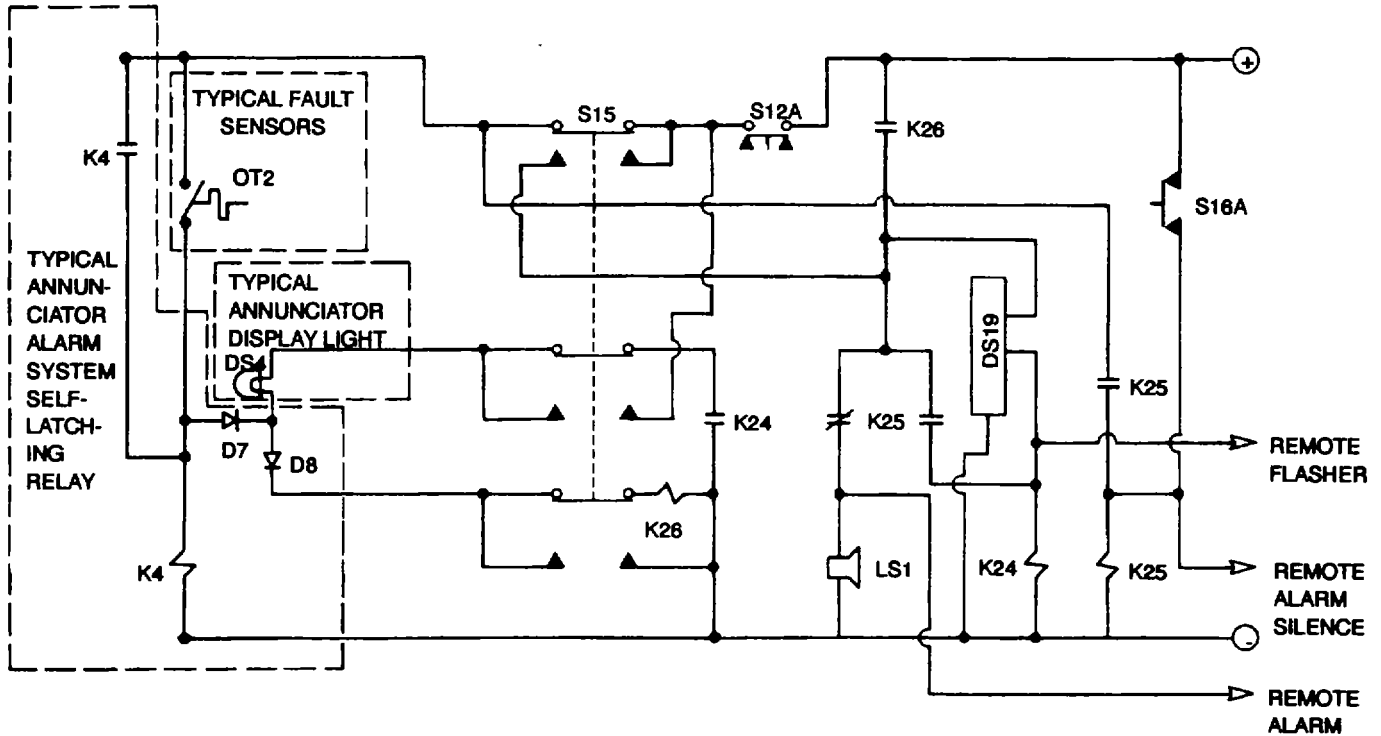

Figure 10-1. Annunciator Alarm System, Simplified Schematic Diagram
- a. **Fault Sensor.** Refer to Figure 10-1. Lubricant temperature switch OT2 is a typical fault sensor. Upon an over temperature condition, OT2 will close. The closing action of OT2 connects positive dc voltage to alarm relay AI OK4, energizing the relay.
- b. **Alarm System Self-Latching Relays.** Refer to Figure 10-1. Alarm relay AI OK4 is a typical annunciator alarm system self-latching relay. Whenever energized by the single fault sensor connected to it, self-latching contacts close to ensure the relay remains energized, even if the switch in the fault sensor reopens. Once energized, K4 will remain latched until manually deenergized as described in step f, below.
- c. **Alarm Relay K26.** Refer to Figure 10-1. Whenever a self-latching annunciator alarm system relay such as K4 is energized, alarm relay K26 is energized through the latching contacts of the alarm relay (K4). The contacts of alarm relay K26 close to apply positive dc voltage to flasher DS19 and, through the normally closed contacts of alarm silence relay K25, to horn LS1. The horn sounds.
- d. **Flasher DS19 and Annunciator Panel A9.** Refer to Figure 10-1. Flasher DS19 operates at three cycles per second and has a 50 percent duty cycle. Three times per second, flasher relay K24 is energized through flasher DS19. Each time K24 is energized, annunciator display light A9D7 is illuminated to provide a visual indication of which fault circuit has tripped the alarm system. Annunciator display light A9D7 is just one of 18 lights in annunciator panel A9. Fourteen of the lights are each associated with one of the 14 fault sensors in the generator set. The remaining four lights are associated with the four unused alarm circuits in the system.
- e. **Alarm Silence Relay K25.** Refer to Figure 10-1. Horn LS1 will continue to sound until ALARM SILENCE pushbutton S16 is manually pressed to energize self-latching alarm silence relay K25. When relay K25 is energized, its normally closed contacts open, cutting off positive dc voltage from horn LS1. The horn goes dead. Simultaneously, the normally open contacts of relay K25 close to connect flasher relay K24 directly to positive DC voltage, bypassing flasher DS19. Relay K24, which had been receiving positive dc voltage on and off, three times per second, is now continuously energized. As a result, annunciator display light A9DS4, which had been flashing, is now continuously on.
- f. **ANNUNCIATOR RESET Pushbutton S12A.** Refer to Figure 10-1. Annunciator display light A9DS4 will remain on until the annunciator alarm system circuit has been reset via ANNUNCIATOR RESET pushbutton S12A. When pushbutton S12A is pressed, the following occurs:
- (1) Positive dc voltage is disconnected from self-latching annunciator alarm system relay AI OK4. The relay deenergizes and unlatches. Annunciator display light A9DS4, which has been receiving battery positive through the latching contacts of AI OK4, goes out.
- (2) Alarm relay K26 deenergizes when the latching contacts of AI OK4 open. The normally open contacts of K26 open to disconnect battery positive from flasher DS19 and flasher relay K24.
- (3) Pressing pushbutton S12A also disconnects battery positive from self-latching alarm silence relay K25. Relay K25 deenergizes and its normally closed contacts reset the horn circuit. The normally open contacts of K25 open to reset the flasher circuit.
- g. **ANNUNCIATOR TEST Pushbutton S15.** Refer to Figure 10-1. ANNUNCIATOR TEST pushbutton S15 is used to check annunciator alarm system lights and horn operation. The pushbutton is designed to be used in the absence of a true alarm and works as follows: (1) Pressing pushbutton S15 connects battery positive to horn LS1. The horn will sound as long as the pushbutton is pressed.